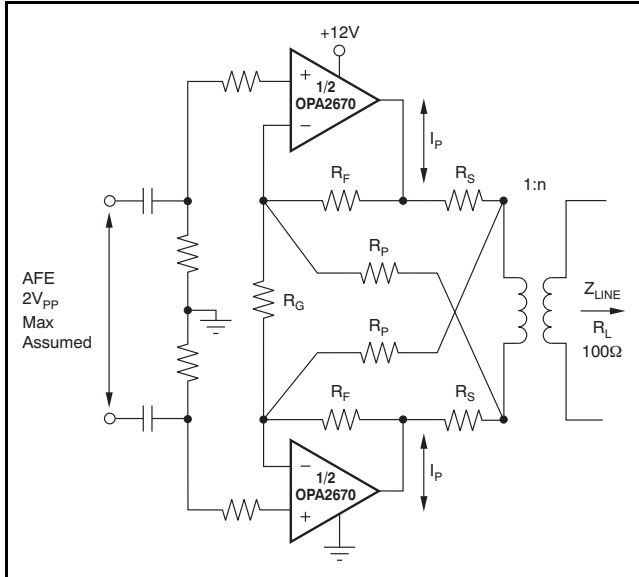

Figure 39. Dual-Supply VDSL Downstream Driver
Figure 39 shows an example of a dual-supply VDSL downstream driver. Both channels of the OPA2670 are configured as a differential gain stage to provide signal drive to the primary winding of the transformer (in Figure 39, a step-up transformer with a turns ratio of 1:n). The main advantage of this configuration is the cancellation of all even harmonic-distortion products. Another important advantage for VDSL is that each amplifier must only swing half of the total output required driving the load.
When using a synthetic output impedance circuit (see Figure 39), a significant drop is noticed in bandwidth from the specification that appears in the Electrical Characteristics table. This apparent drop in bandwidth for the differential signal is a result of the apparent increase in the feedback transimpedance as seen for each amplifier. This feedback transimpedance equation is given below.
Evaluating these equations for the OPA2670 ADSL circuit and component values of Figure 39 gives a total output spot noise voltage of 66.7nV/√Hz and a total equivalent input spot noise voltage of 6.67nV/√Hz
f) Use the $-V_S$ plane to conduct heat out of the QFN-16 PowerPAD package. This package attaches the die directly to an exposed thermal pad on the bottom, which should be soldered to the board. This pad must be connected electrically to the same voltage plane as the most negative supply applied to the OPA2670 (in Figure 39, this supply is GND).